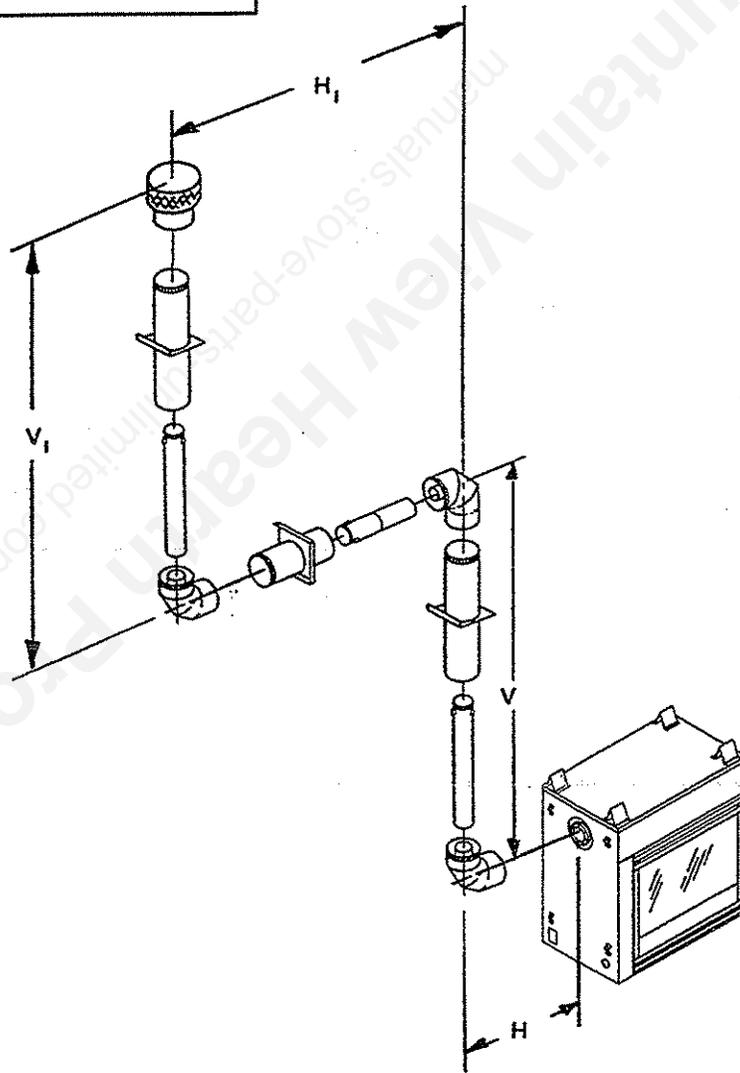

FIGURE 8
Figure 8 and Table 5 show examples of possible installations using three (3) 90-degree elbows. Dimension V is listed as **MINIMUM** first vertical dimensions, dimension H is listed as **MAXIMUM** beginning horizontal dimensions, and dimension H+H₁ is listed as corresponding **TOTAL MAXIMUM** horizontal dimensions. Three 90-degree elbows used in a vent system will result in a vertical termination.